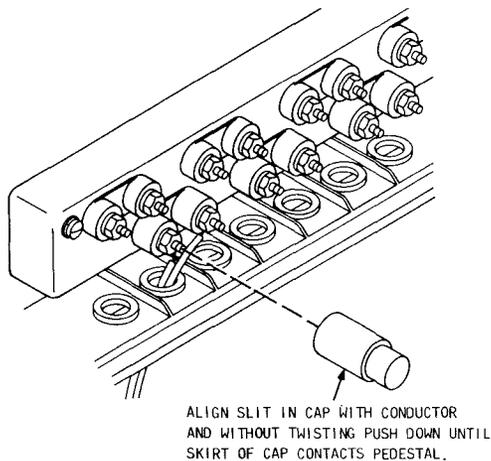

Fig. 8—C Binding Post Caps
2.04 Binding post caps are available to reduce binding post corrosion. As indicated in Table A, black binding post caps (Fig. 8) are factory equipped on the NCP-10A1C-12, NCA-25A1C-25, and NFA-25A1C-25 cable terminals. The NFP-10A1C-12 cable terminal is factory equipped with C binding post caps except on the RING binding post of pair No. 10 which has an H binding post cap. Binding post caps are also available (ordered separately) for other N-type terminals. Use red caps when SSM (special safeguard measures) or SSP (special service protection) is required.